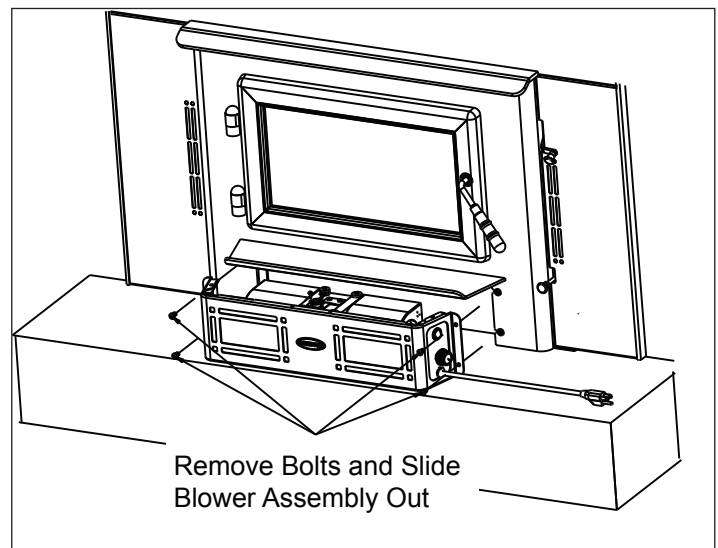

Figure 22.1
1. Using a 5/32 Allen wrench, remove 4 blower housing mounting bolts and slide assembly out. **Figure 22.1.**